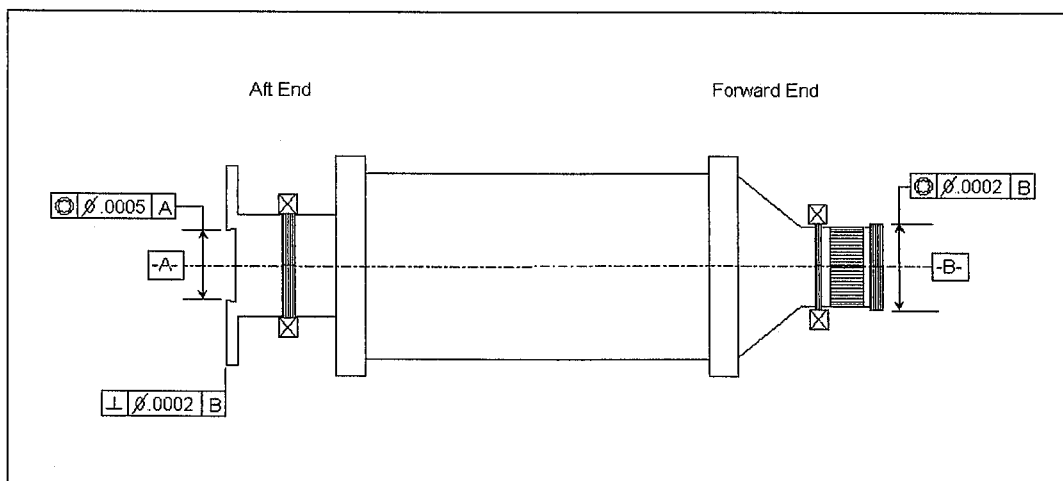

Figure 27 - Assembly Balance - Indicating Requirements
- b. Be sure coupling is indicated to the requirements (See Figure 27). All balance tooling and proposed balance procedures shall be provided by refurbisher and approved by customer prior to balancing.